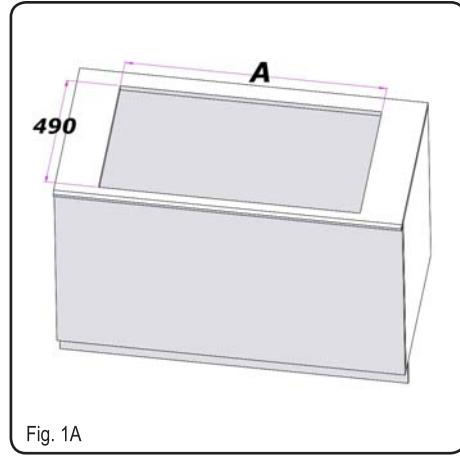
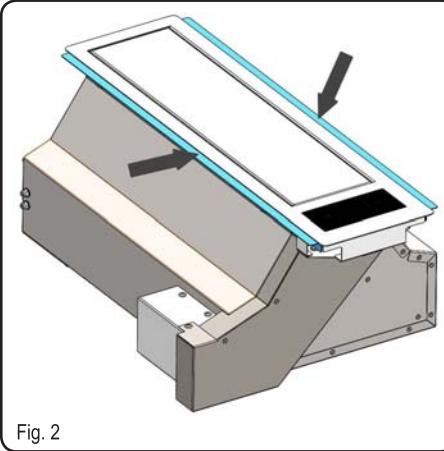
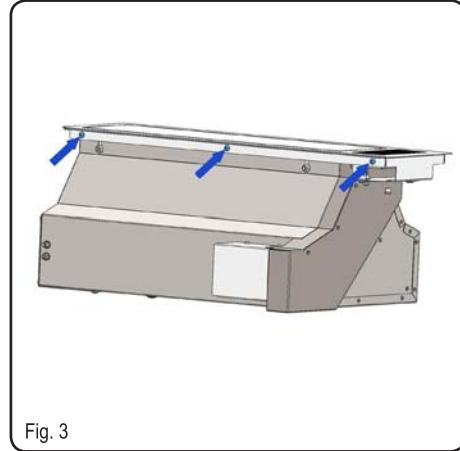

Fig. 1A
Fig. 2
Fig. 3
- Carry out a rectangular hole of the dimensions of 490mm x A, (fig. 1A), the dimension A changes depending on the size of the hob. The product is equipped with two angles to support the hobs (fig. 2), before installing the product check the actual need for these components and if not remove them by removing the screws in fig. 3.